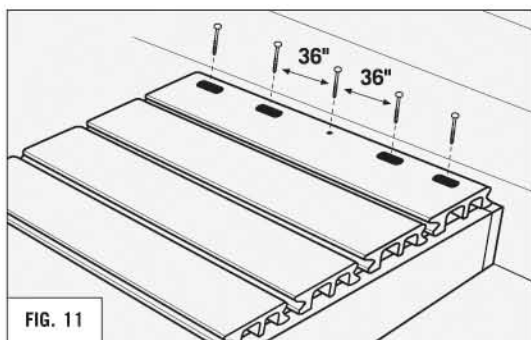

FIG. 11
- Pre-drill and screw deck board into lumber from top surface. Attach the deck board with screws spaced 36" apart. To avoid complications from expansion/contraction slot all holes, except the center hole. (REFER TO FIG. 11)